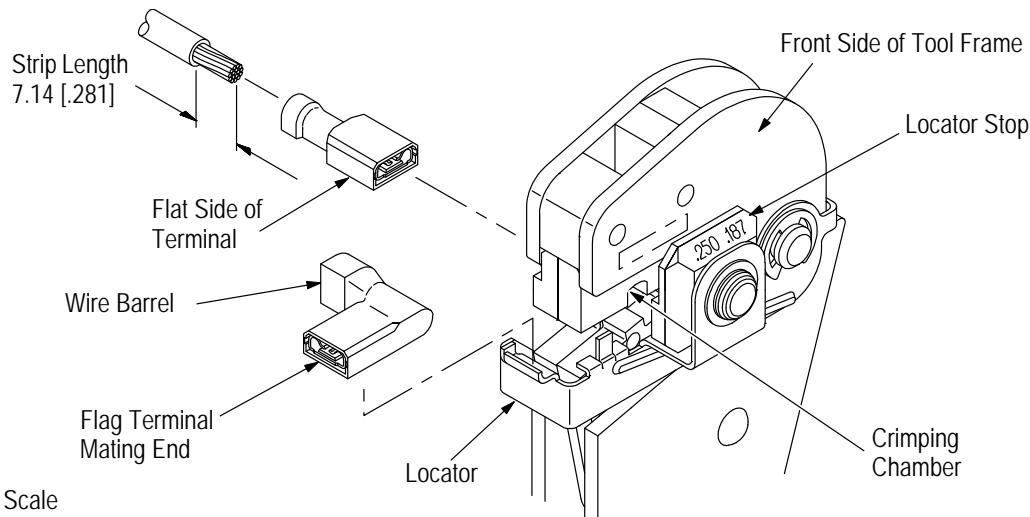

Figure 3
Select the appropriate wire size and terminal for the die assembly. The wire size and insulation diameter must be within a specified range for the terminal. Strip the wire to the appropriate length shown in Figure 3. Do NOT cut or nick the wire strands. Then, proceed as follows:
3. The locator stop must be adjusted to accommodate the terminal series size, which is marked on the terminal insulation (.110, .187, or .250). Rotate the blue plastic locator stop until the series size number, appearing in the uppermost position, matches the terminal series size. Refer to Figure 3.